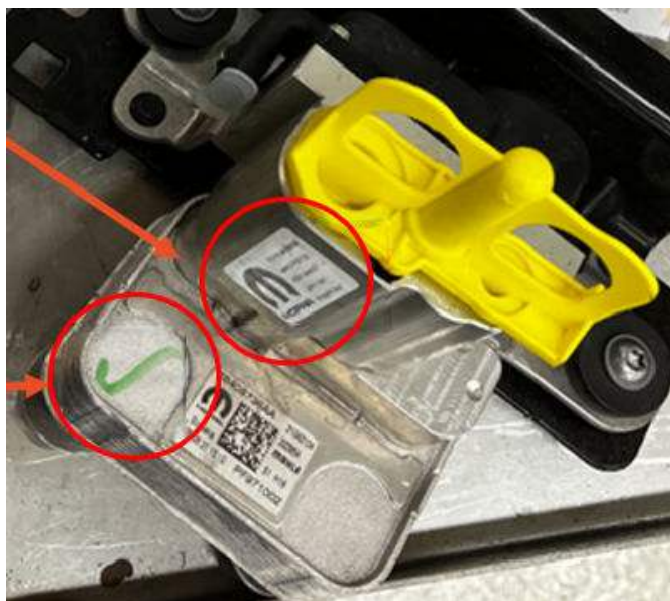

Fig. 1
1. Open the hood and check the chiller for part numbers 68470822AA or 68470822AB, then look for any green check marks Fig. 1.
2. Are there part numbers 68470822AA or 68470822AB and any green check marks on the chiller Fig. 1?